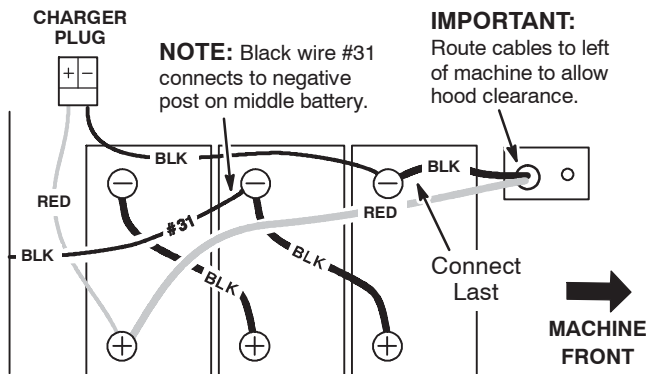

FIG. 4
- Connect cables to battery posts as shown, RED TO POSITIVE & BLACK TO NEGATIVE (Figure 4).